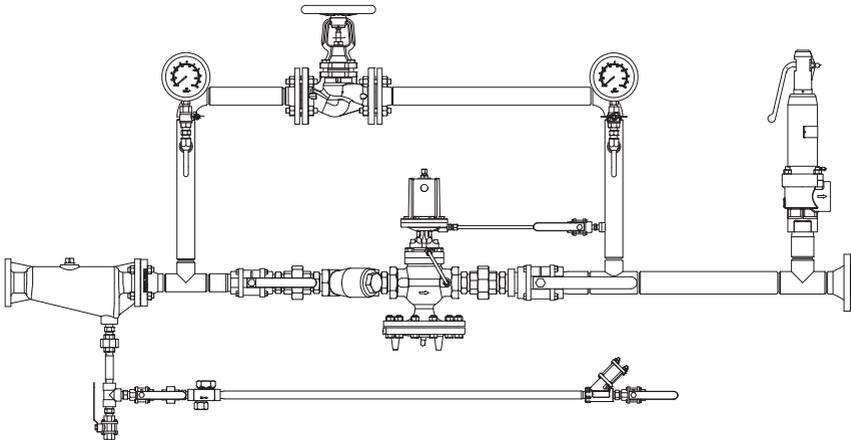

Figure 1 -Typical installation of a pressure reducing station
5.4 The typical installation shown at Figure 1 serves as reference for the installation of the recommended pressure reducing system. Usually, the downstream pipeline should have a larger diameter than the upstream pipeline, to prevent excessive pressure drop.